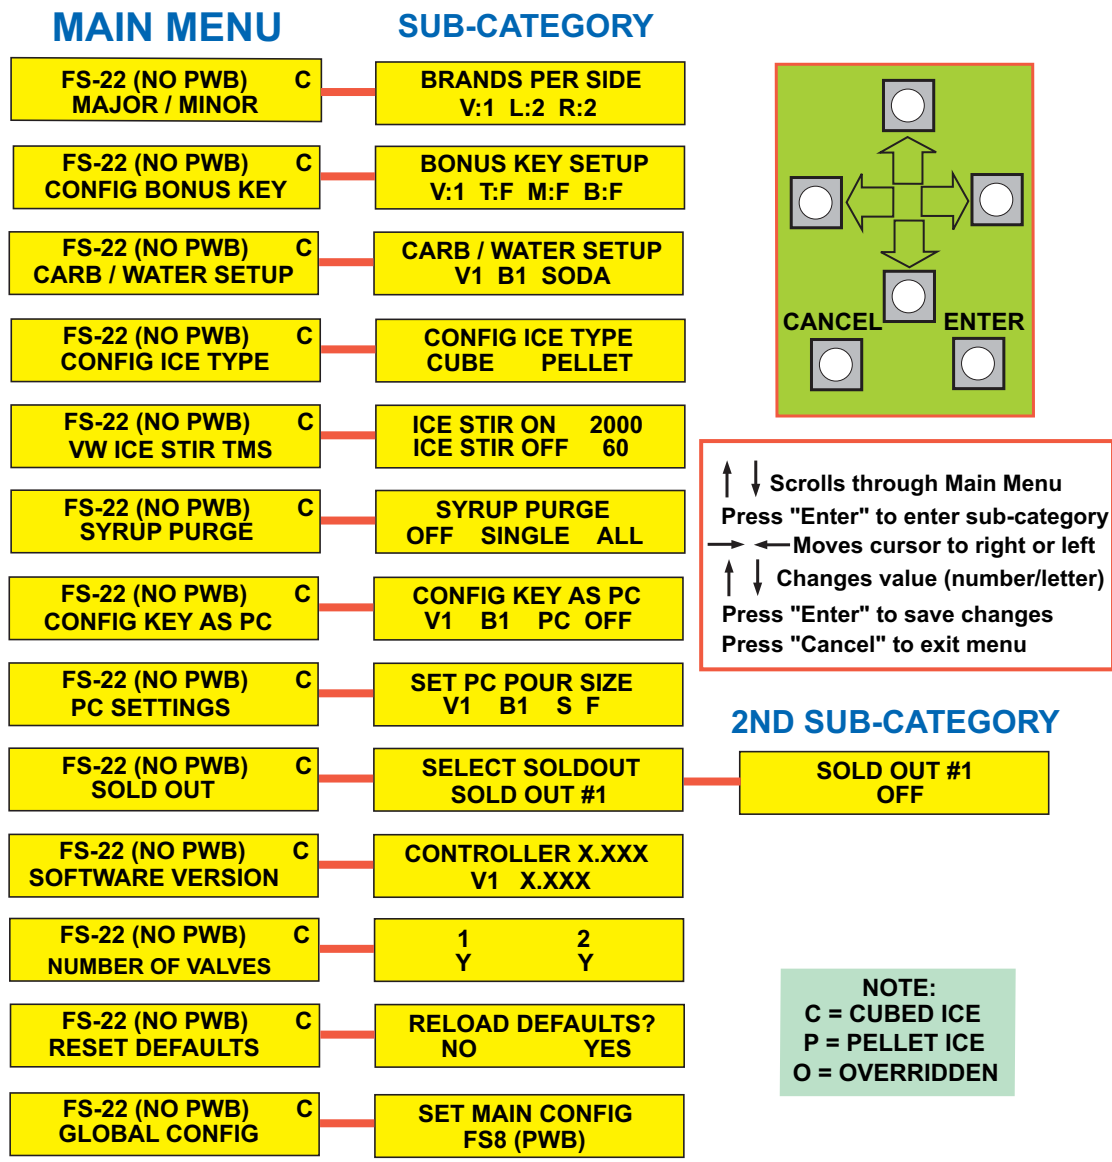

Figure 5
3. The valves can be adjusted by scrolling through the menus (see Figure 5) using the **UP** and **DOWN** arrows. By pressing the **ENTER** button, a submenu is revealed. In the submenu, the individual valves can be adjusted to the desired configuration.